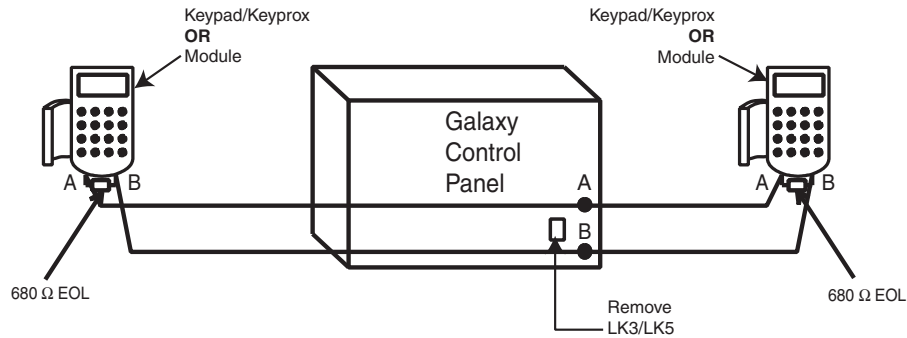

Figure 2-9. Twin AB Line Daisy-Chain configuration
5. The RS485 (AB) line must have a 680 Ω resistor fitted across the A and B terminals of the last module on the line. If twin lines are connected, both ends must be terminated with 680 Ω resistors and the appropriate link on the control panel PCB must be removed (refer to figure 2-9).